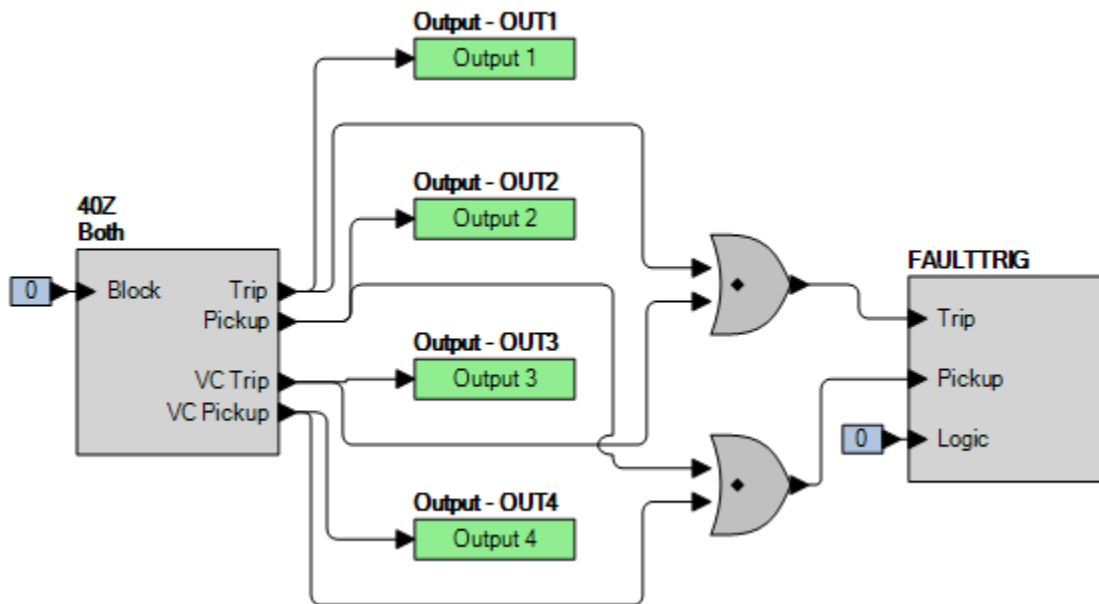

Figure 81-1. BESTlogicPlus Settings
Step 2: Use BESTCOMSPPlus to configure the BESTlogicPlus programmable logic shown in Figure 81-1.
Step 3: Prepare to monitor the 40Z function operation. Operation can be verified by monitoring OUT2 (40Z pickup) and OUT4 (40Z VC pickup, see Figure 81-1).